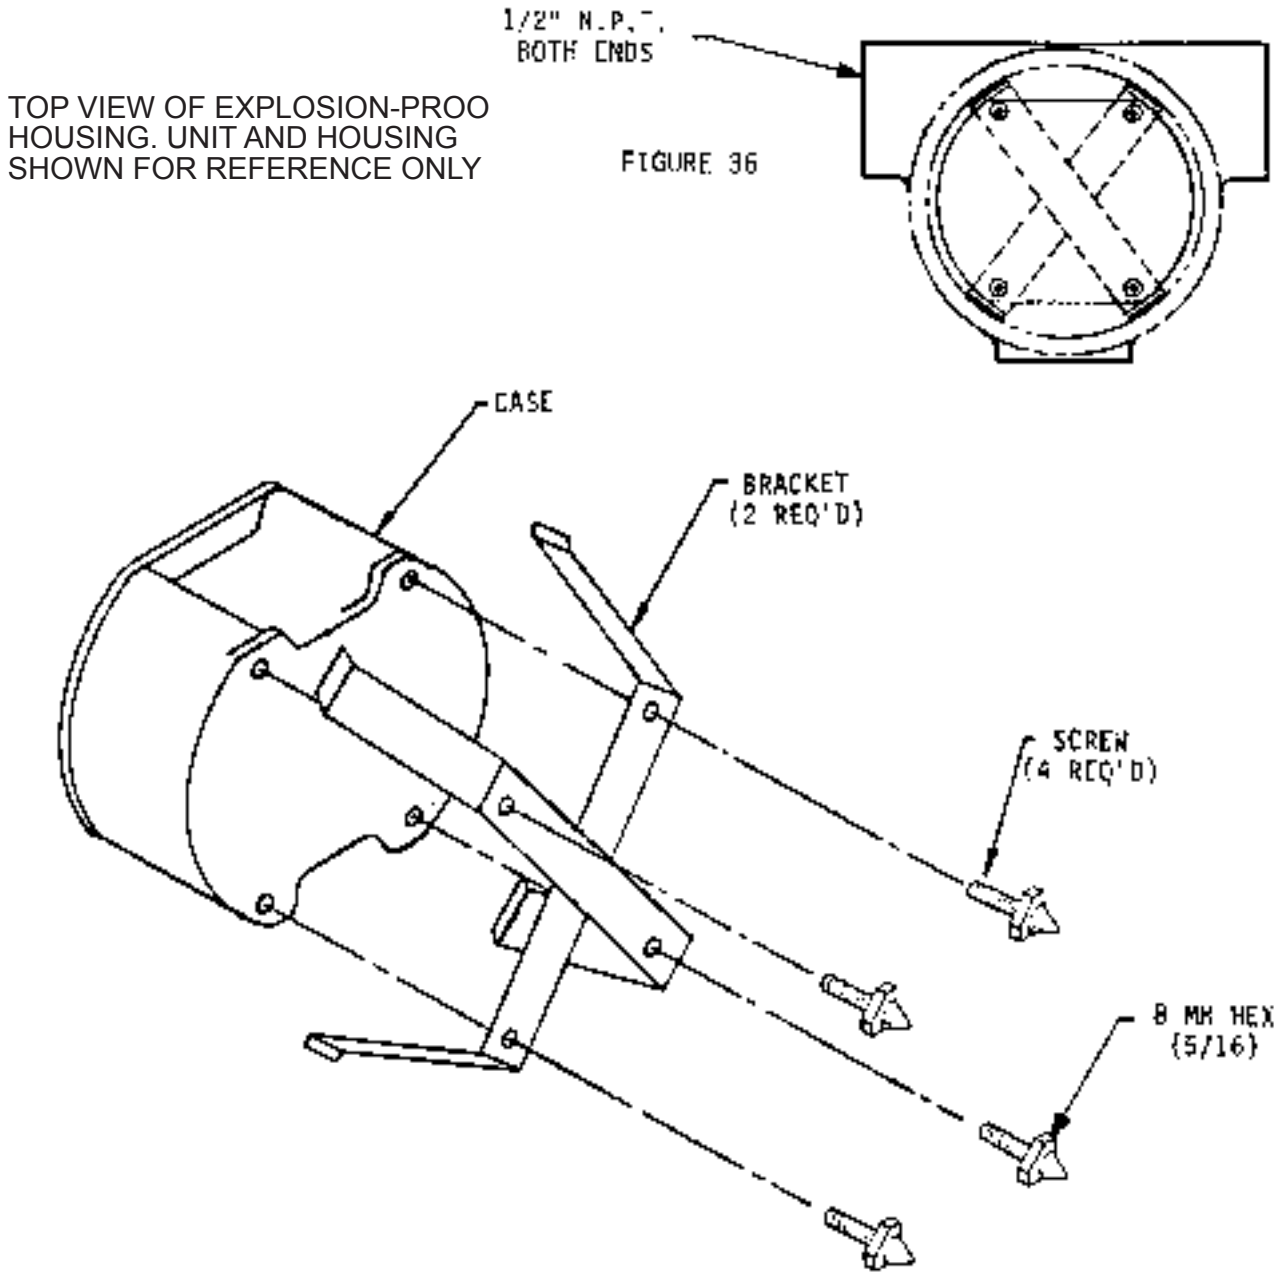

Figure 3-5 Spring Retainer for Explosion-Proof Housing
- c. Spring retainer for explosion-proof housings that have internal diameters of 76.4 to 88.9 mm (3.0 to 3.5 in.). See Figure 3-5.